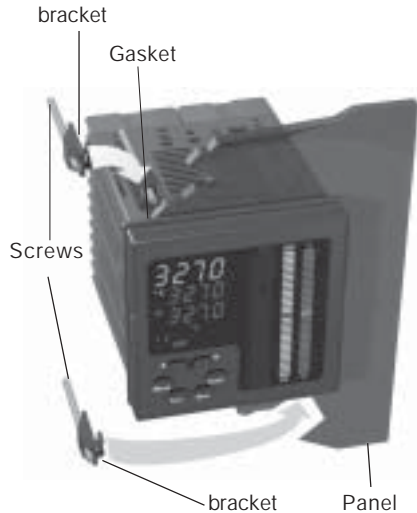

Fig. 1
To assure the IP65 and NEMA 4 protection, insert the panel gasket between the instrument and the panel as shown in fig. 1.
- 4) insert the mounting brackets as shown in fig.1;